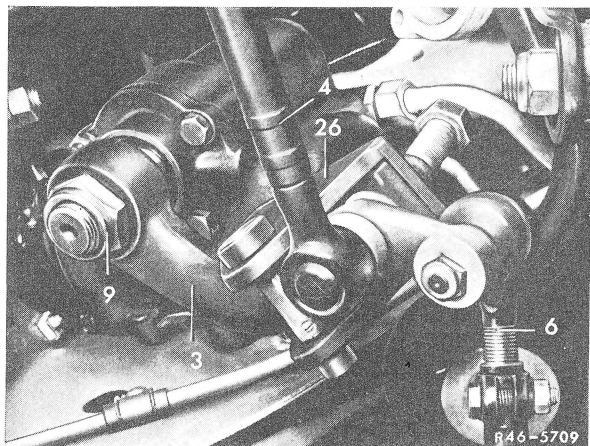

Fig. 3
- 2 Unscrew hex. bolt for fastening steering shock absorber (15) and force steering shock absorber from holding bracket (Fig. 3).
- 3 Remove drag link (4) by means of puller (26) (Fig. 3).